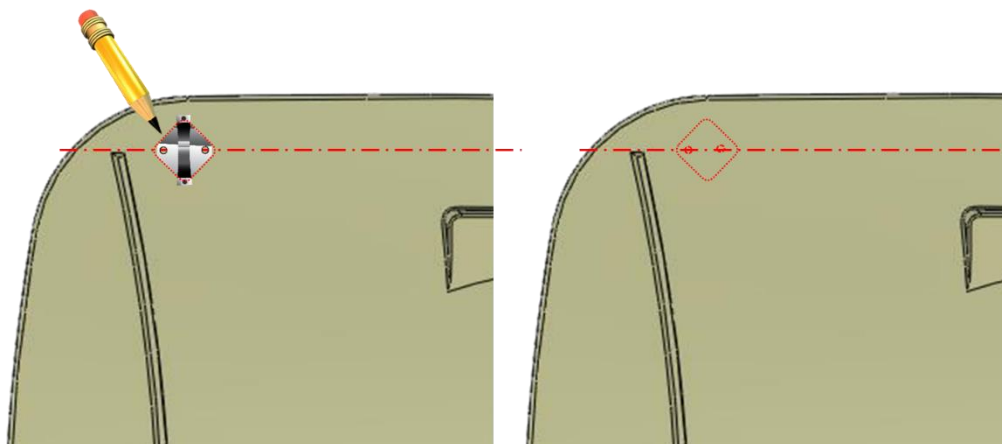

Figure 8a.: Flat Surface Mount
- g. Carefully remove actuator from mounting clamps. Ensure mounting clamps are in marked location and mark holes for drilling. (See Figure 8a and 8b.)